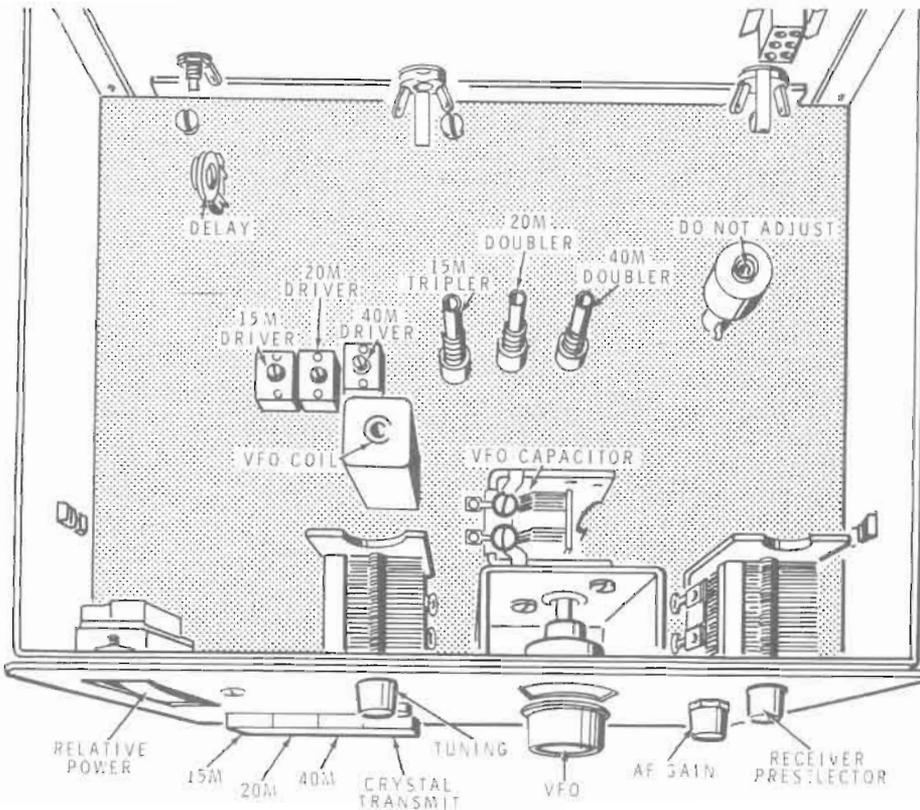

Figure 1-1
- () Refer to Figure 1-1 (fold-out from Page 24) and tighten both trimmers on the VFO capacitor until they are just snug. Then rotate each trimmer 1/2-turn counterclockwise.
() Again refer to Figure 1-1 and rotate the top slug in the VFO coil until a zero beat is heard from the calibrated receiver. It may be necessary to turn down the calibrated receiver AF gain control. Use the supplied alignment tool to make the adjustment. Do not rotate the coil slug more than one turn in either direction.
Again refer to Figure 1-1 and use the alignment tool to adjust the bottom slug of the VFO coil until a zero beat is heard from the calibrated receiver. This adjustment is rather difficult to accomplish since the zero beat point can be passed over very easily.